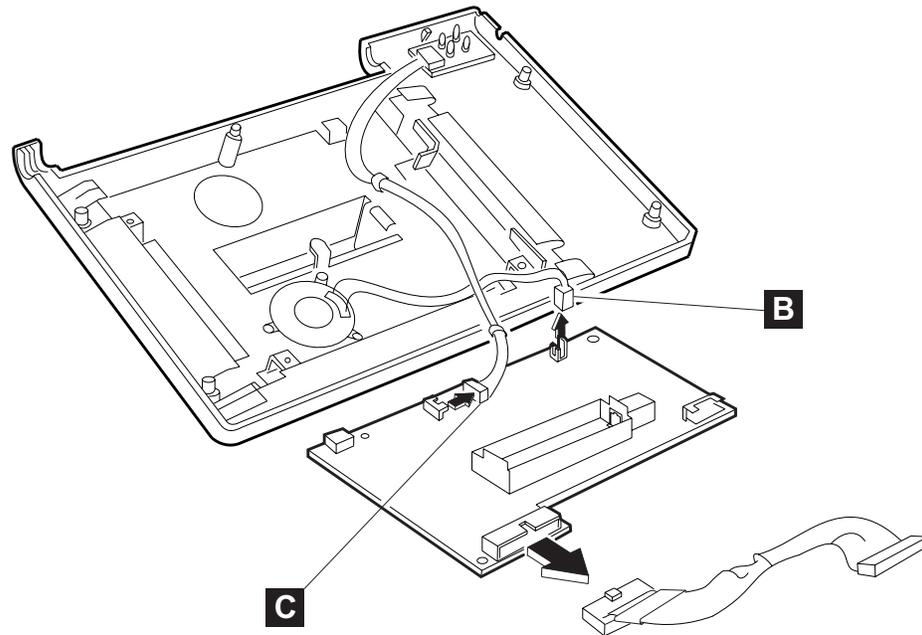

Figure 67. Disconnecting the connector to the LED assembly
- Lift up the logic board as shown in Figure 67.
- Disconnect the connector to the LED assembly at the end to the logic board (**B** and **C** in Figure 67).